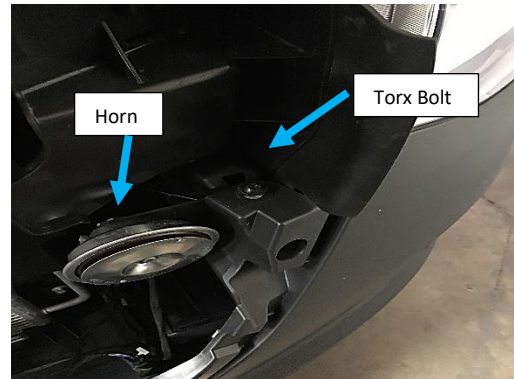

Figure 4: Torx Bolts Near Top of Stock Bumper
4. Remove the two (2) torx bolts near the top of the stock bumper seen with the grille removed. Reference Figure 4.
- Remove the horn (seen in Figure 4).